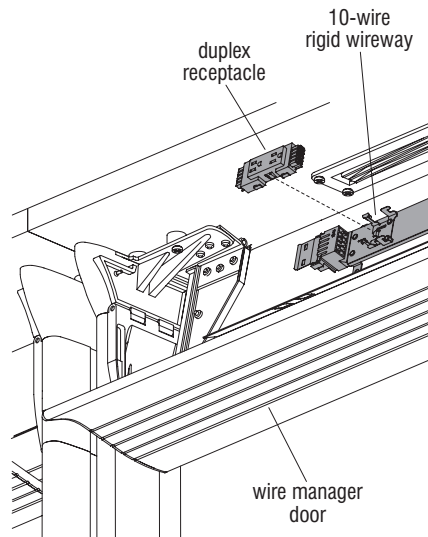

Figure 1
2. Plug the required duplex receptacle(s) into the plastic ends of the 10-wire rigid wireway and secure by inserting until metal snap engages (Figure 1).